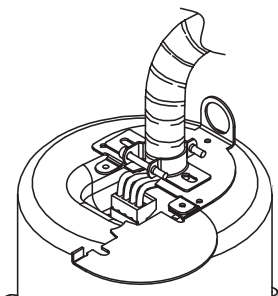

Figure 15: Alternate conduit fitting
2. If the installation used flexible (BX) or rigid (EMT) conduit, an alternate conduit fitting can be used. See Installation Note and Figure 15.